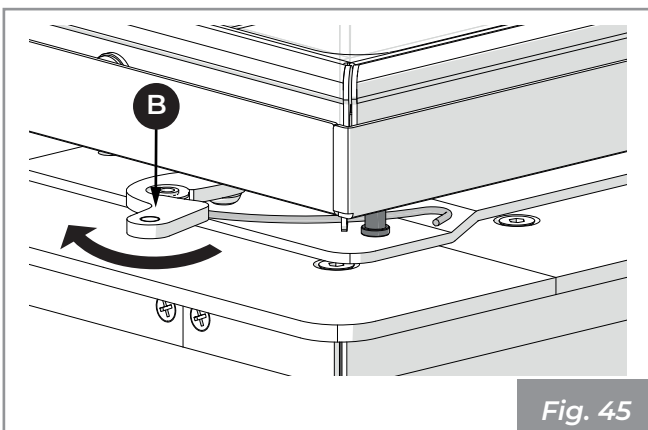

Fig. 45
- 5) Push lever (B) and return it to the locked position (Fig. 45).